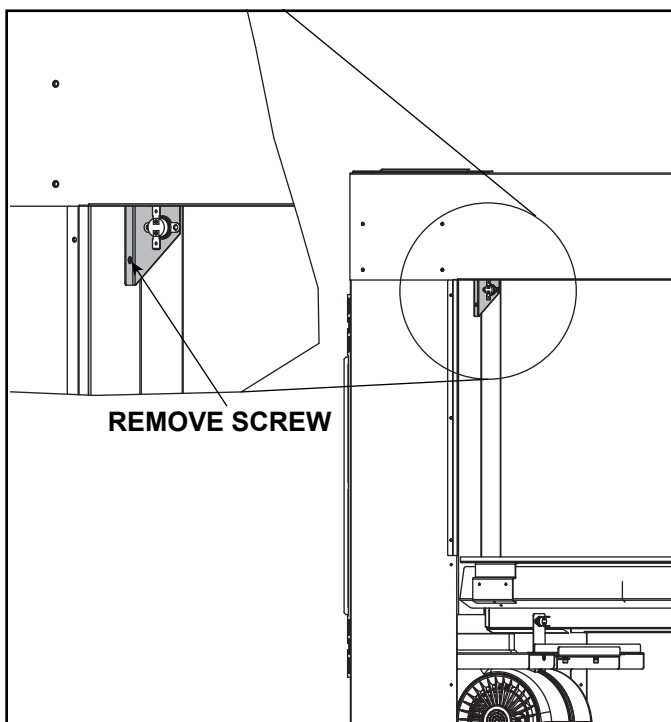

Figure 11.12 High Temperature Limit Switch Installed Correctly
1. Remove the firebox glass high temperature limit switch assembly by removing the machine screw holding the bracket in place and set the assembly aside. See Figure 11.12.
6. Reinstall high temperature limit switch assembly and attach wire connections. See Figure 11.12.
2. Ensure that high temperature limit switch is installed correctly with wires connected. See Section 11.I for installation instructions. See Figure 11.12. Verify that wires are not pinched by the transition media tray.